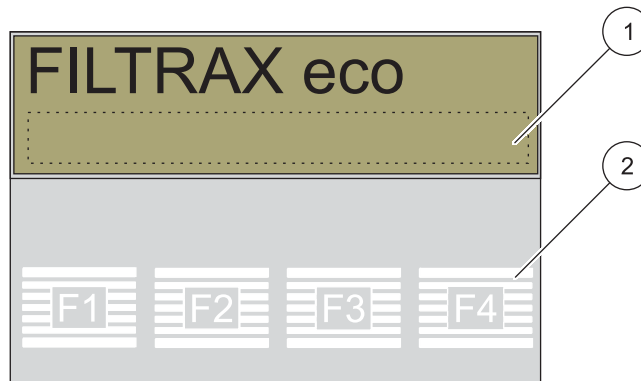

Figure 20 Display
All the instrument functions are software-controlled; they are menu-operated via four keys below the display. The display indicates the operating condition of the heater (Figure 20, item 1). The program menus are accessed by pressing one of the four function keys F1–F4 (Figure 20, item 2) for 3 seconds.